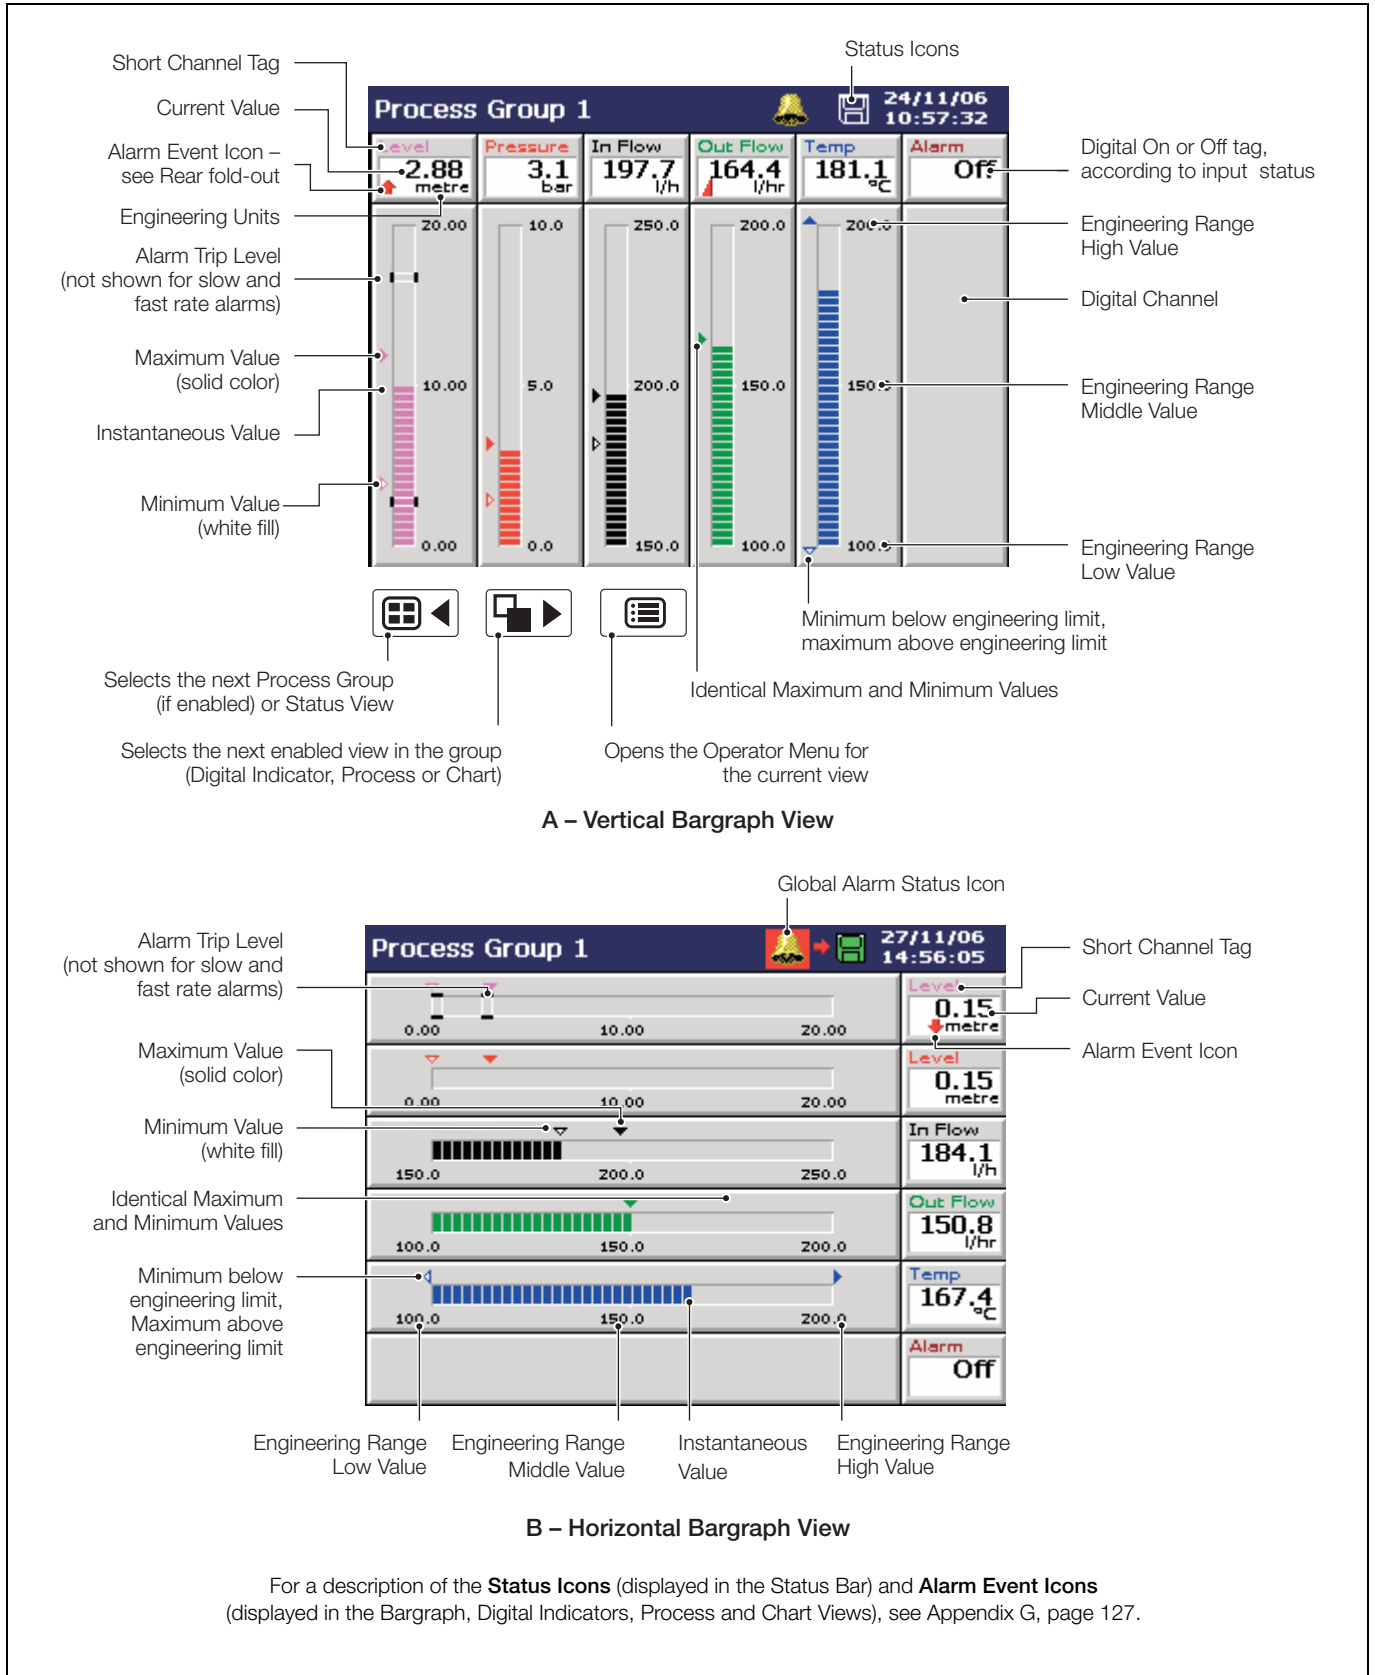

Fig. 2.5 Bargraph Views
2.4 Bargraph Views – Fig. 2.5
**Note.** Active unacknowledged alarms in the current process group are identified by a flashing red Alarm Event icon in the bottom left hand corner of the associated indicator. Active acknowledged alarms are identified by a continuous red Alarm Event icon in the bottom left hand corner of the indicator – see Fig. 2.5, page 15.